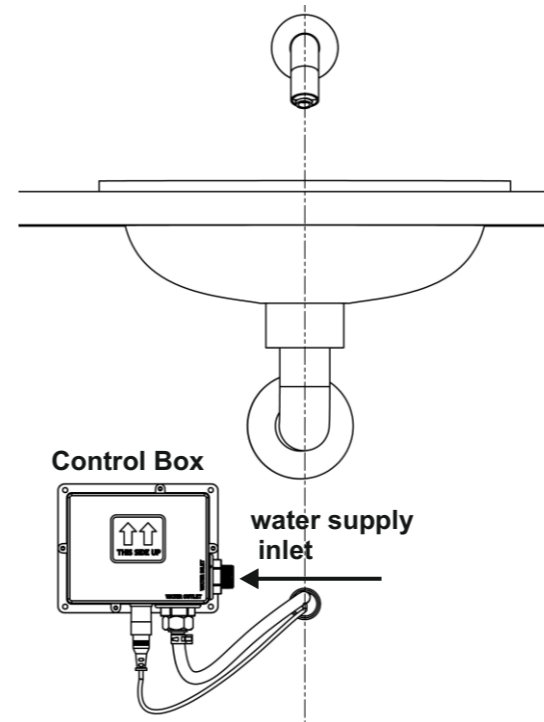

Figure 3
- 4) Fit the control box under the counter as show in Figure 3. The orientation of the box should be as shown. **DO NOT FIT THE CONTROL BOX IN ANY DIFFERENT POSITION** so the water will not directly flow into the control box in case of water leakage from the pipes. Connect the water supply pipe and sensor wire connector from the conduit pipe with the control box as shown.